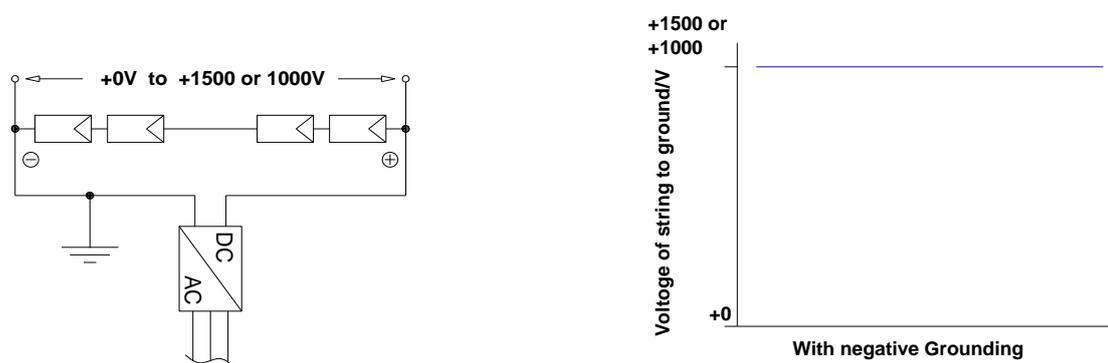

FIG 6 Schematic diagram for grounding potential of the inverter
**7.5.6** If the module is used in high-temperature and high-humidity environment, GM solar suggest the customer configure the inverter which allows negative grounding and contains isolation transformer (as shown in FIG6).